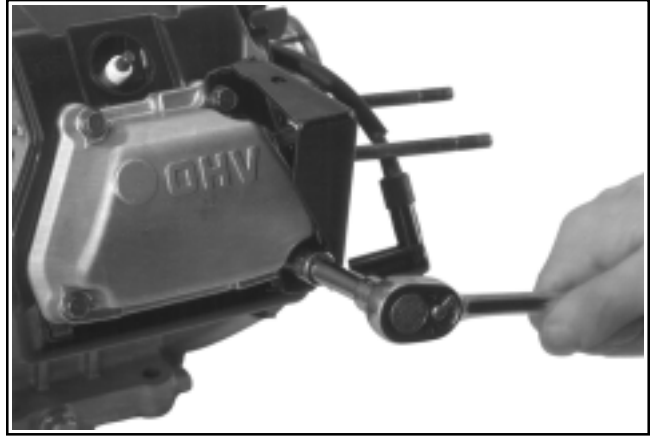

Figure 9-36. Removing Valve Cover Screws on CS8.5 (spec. 92xxxx), CS10, and CS12.
1. Remove the four hex. flange screws securing the valve cover. The air cleaner support bracket (CS8.5-12) may be mounted off two of the screws or directly to cylinder head. Remove the support bracket and note the locations of all the screws. See Figures 9-36 and 9-37.